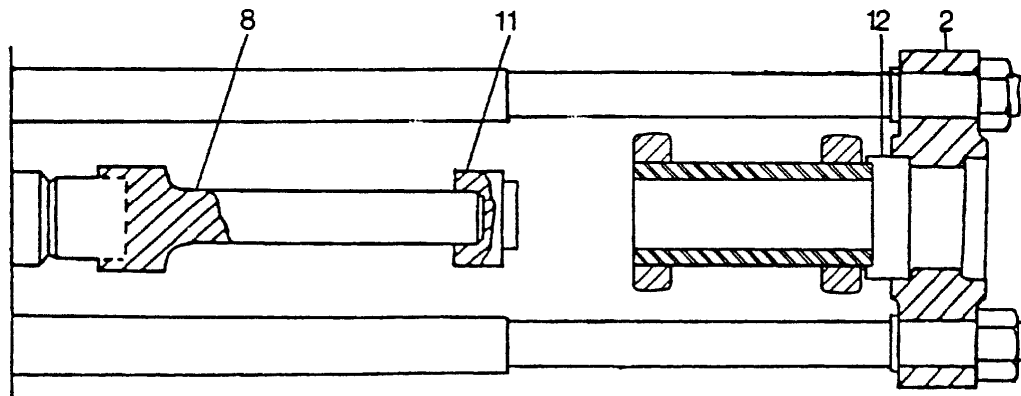

Fig. 15.14. Bushing Installation
3. Remove bushing receiver (12, Fig. 15.14) from bolster (2). Install pin receiver (9) to bolster (2).